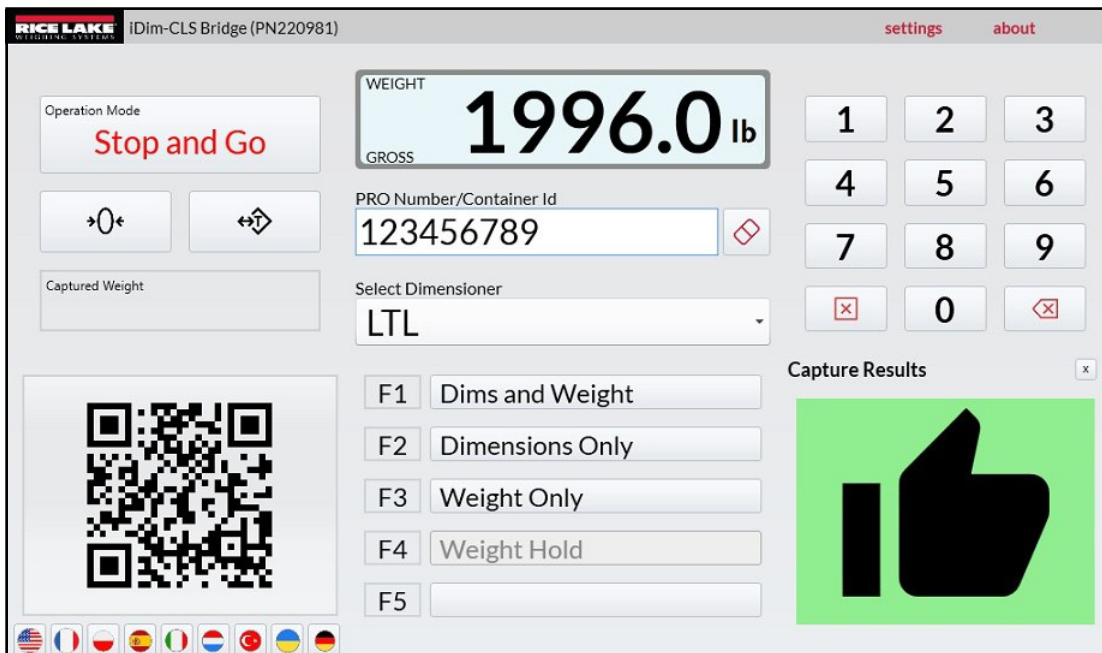

Figure 5-5. Weight Results as Thumbs Up/Down
- **As Thumbs Up/Down:** Shows weight results as a thumbs up or down icon (see Section Figure 5-5. on page 17)